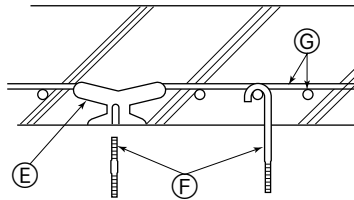

Fig. 4-2
4.1.2. Ferroconcrete structures (Fig. 4-2)